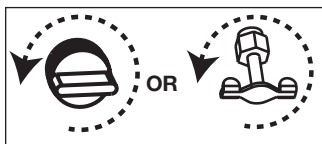

Figure 8
1. Open the fuel shut-off valve. Turn counter clockwise until the valve stops. See Figure 8.
1. Open the fuel shut-off valve. See Figure 8.